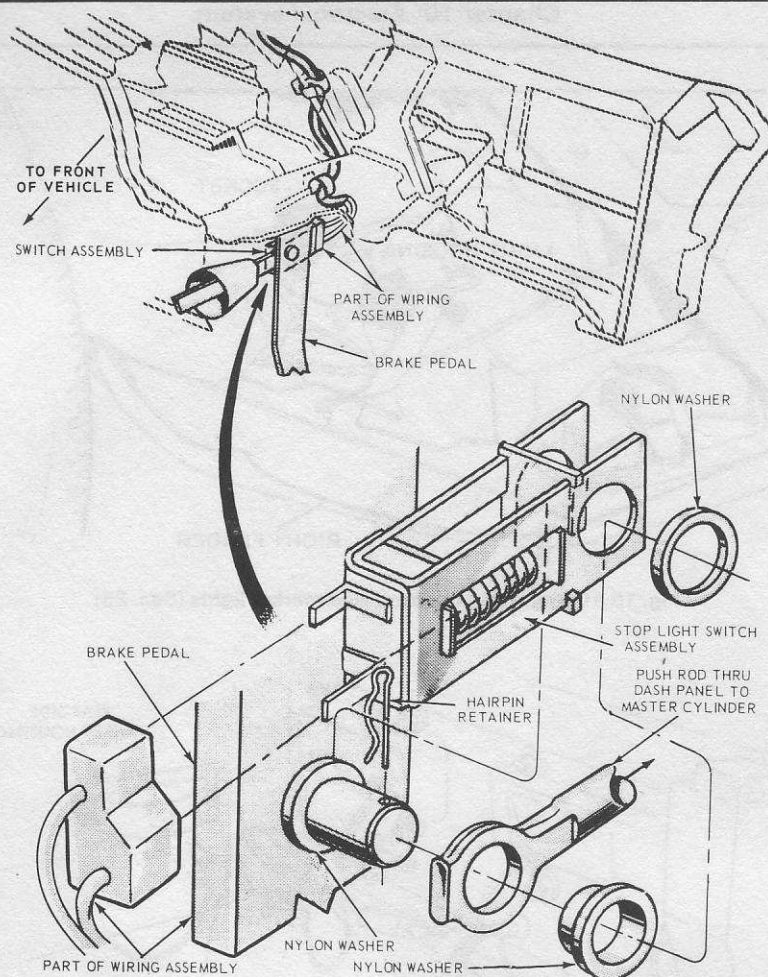

Fig. 10.12 Stoplight switch removal (Sec. 28)
- 3 Withdraw the hairpin retainer, slide the stoplight switch, the pushrod, nylon washers and bushing away from the brake pedal and remove the switch (Fig. 10.12).